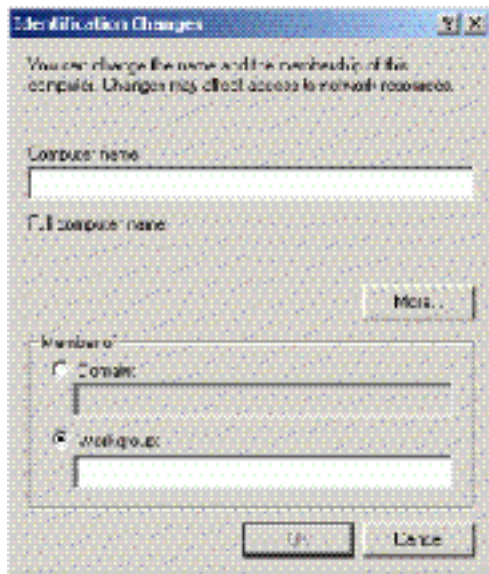

Figure 2-17 Identification Changes Dialog Box
3. Click *Properties*. The *Identification Changes* dialog box appears (Figure 2-17).